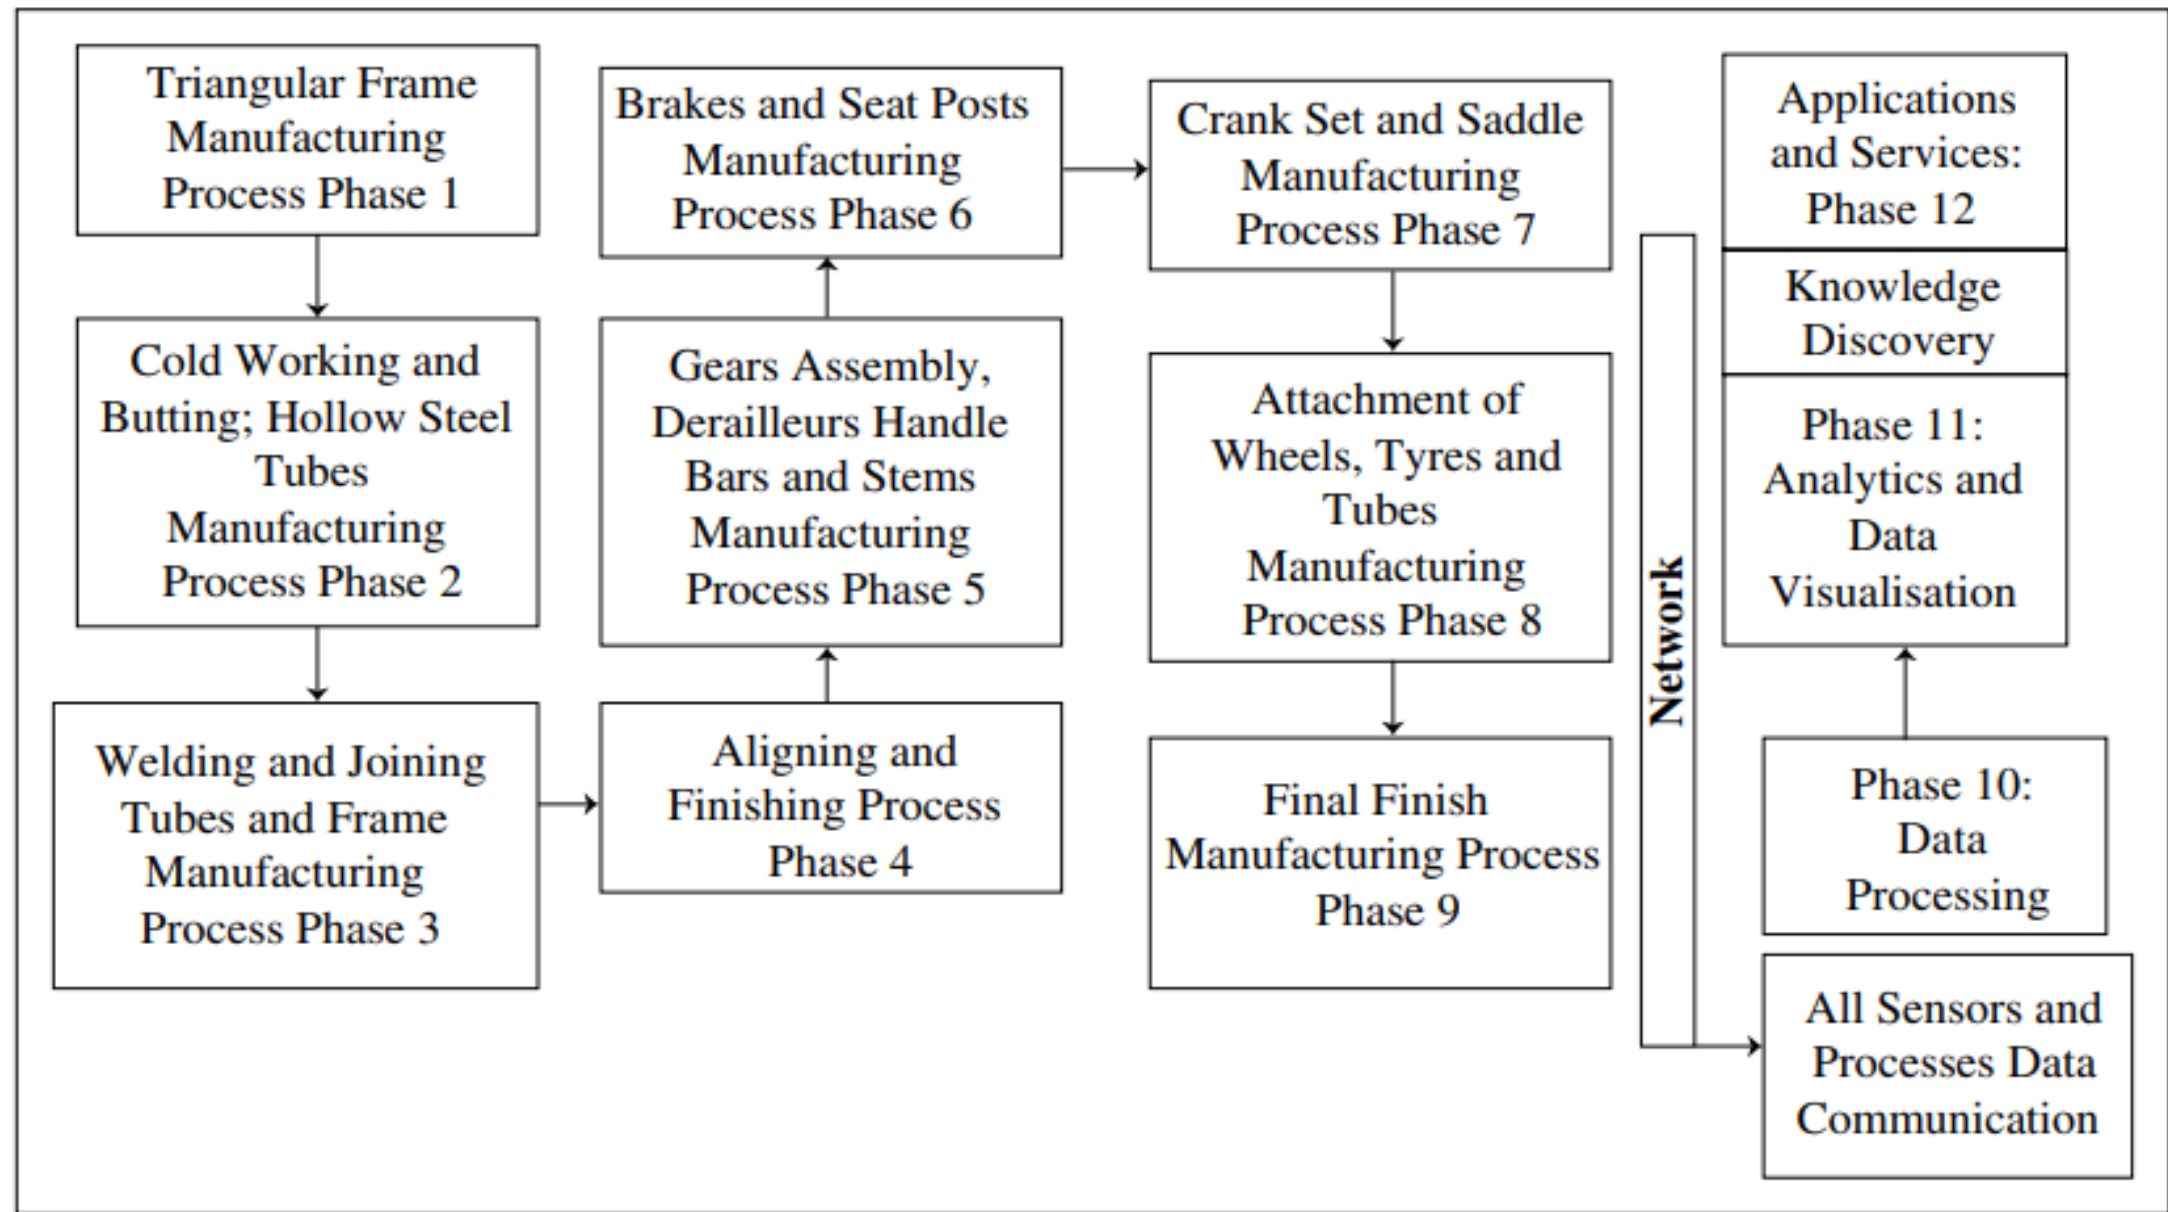

Figure 7.10 IIoT phases in the bicycle manufacturing process
- Figure 7.10 shows IIoT phases in the bicycle manufacturing process.